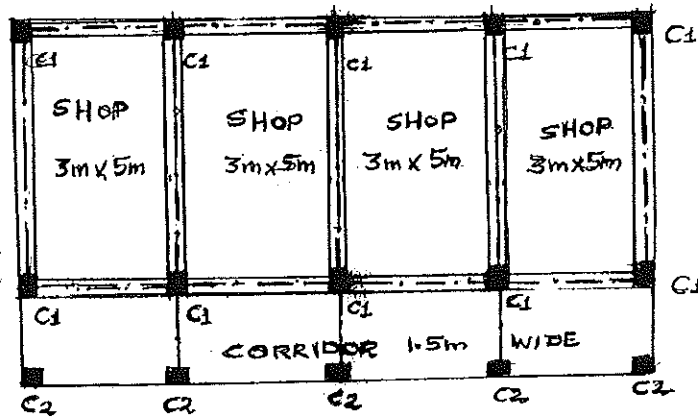

Fig.Q1
- 1 Prepare a centre line drawing showing foundation trench layout for walls of the building and footing for columns as shown in Fig.Q1.